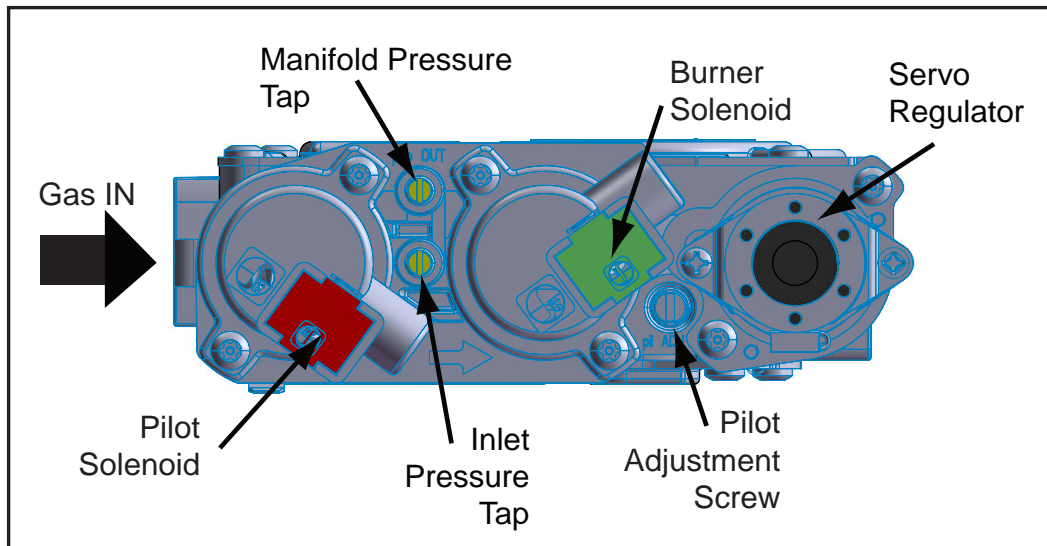

Figure 54: Fully Labeled Gas Valve.
The pressure taps are located on the valve shown in Figure 54.
1. The adjustment screw can be reached through the front of the unit using a 10 inch long blade head screw driver (see Figure 54 for location on valve).